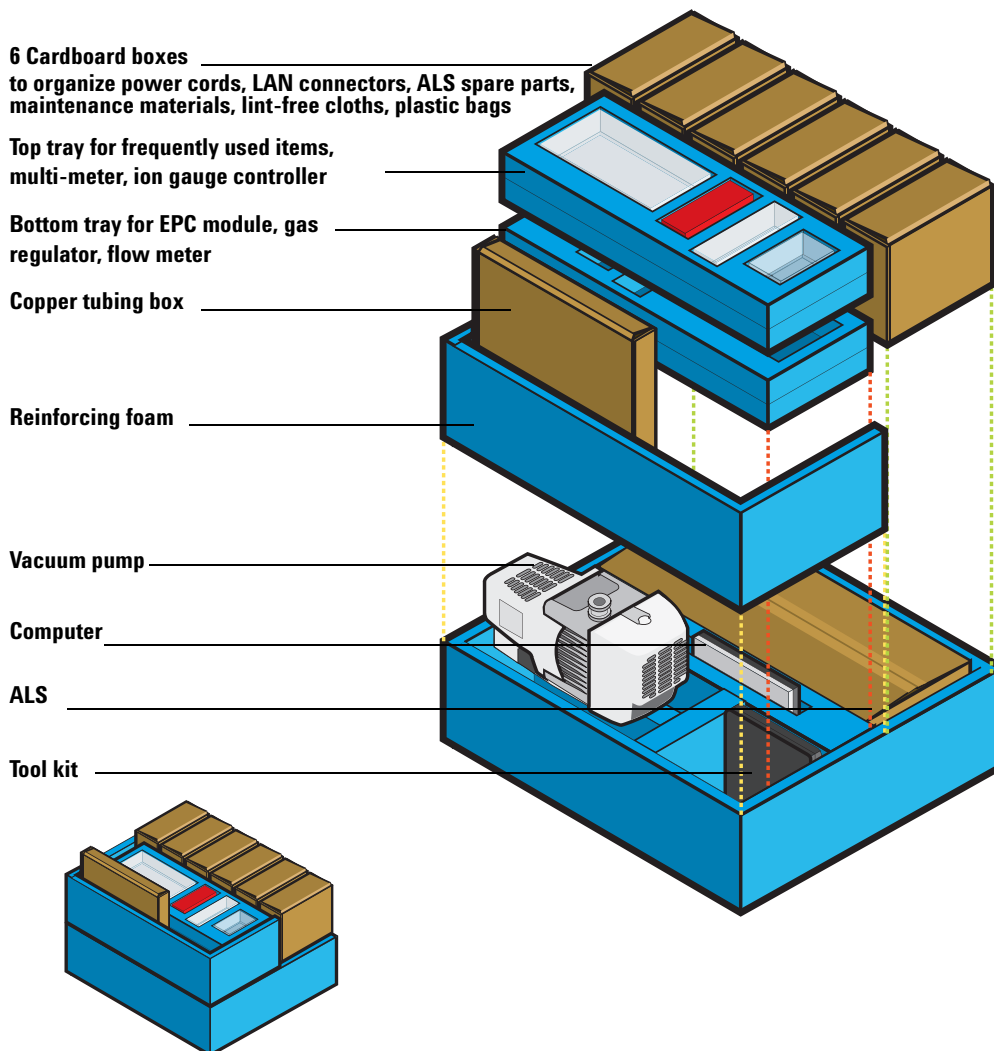
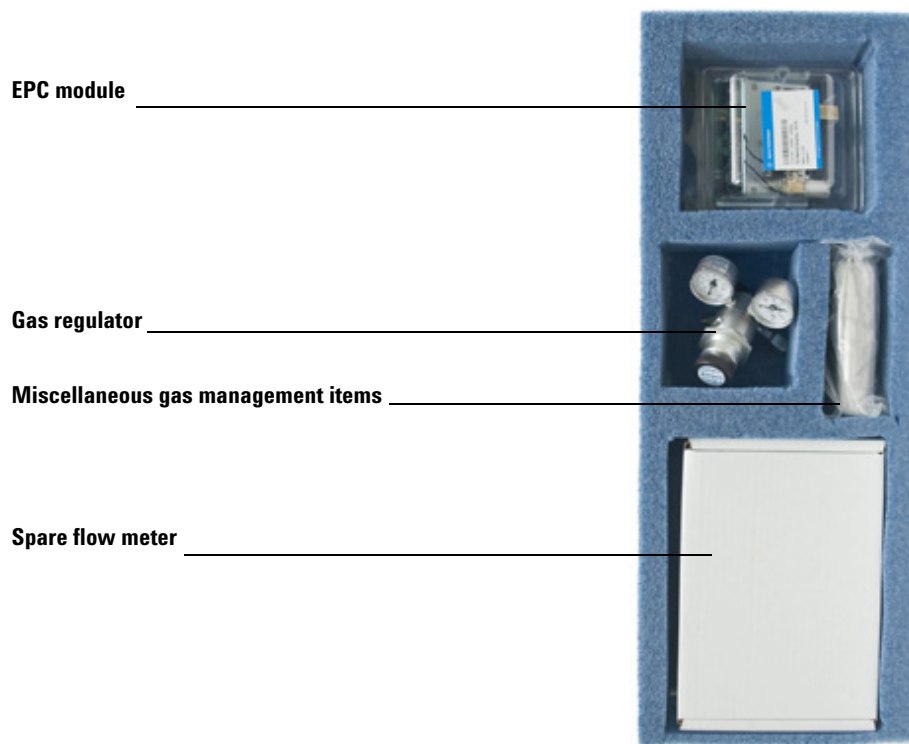

Figure 9 Recommended packing order of the 5975T LTM GC/MSD accessory container
Figure 11 An example of the packing configuration for the bottom tray of the 5975T LTM GC/MSD reusable shipping container
- 3 Open the LTM column module door and remove the MSD guard column that runs between the LTM column module outlet and the MSD transfer line. Place it in a plastic bag, then into one of the cardboard boxes in the reusable accessory box. See Figure 9 on page 70.
After the system has been readied and placed under vacuum as described in “Preparing the System for Transport” on page 65, disconnect the removable parts listed below. Carefully pack these parts in the reusable accessory container. (See Figure 9 for a recommended packing order.) During the process, remember, the instrument must remain upright at all times.
- f Put the ALS into its original ALS shipping cardboard box, and place it in the compartment at the bottom of the reusable shipping container. See Figure 9 on page 70.
- e** Place the foreline pump in space provided for it in the bottom of the reusable shipping container. See Figure 9.
- d** Coil the tubing line and put it in the cardboard box designed for the copper tubing. See Figure 9 on page 70.
- e Place the gas regulator in the bottom tray. See Figure 11 on page 72.
- 11 Store miscellaneous items, such as consumables, the EPC module, multi-meter, ion source, and flow meter in the top and bottom trays of the reusable accessory shipping container. See Figure 9 on page 70, Figure 10 on page 71, and Figure 11 on page 72.
Figure 9 shows Agilent's recommended packaging order for this container. Modify this configuration as required for optional spare parts and tools that you are transporting with your system.